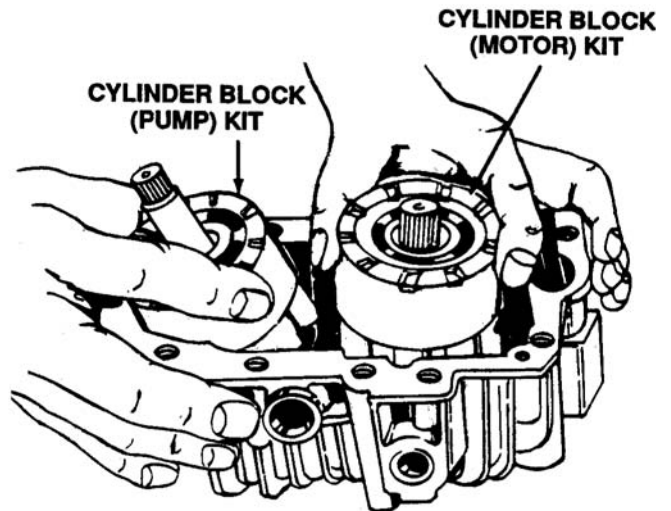

Figure 6-56. Checking Rotation of Cylinder Block Kits
- d. Check cylinder block kits for free rotation. See Figure 6-56.